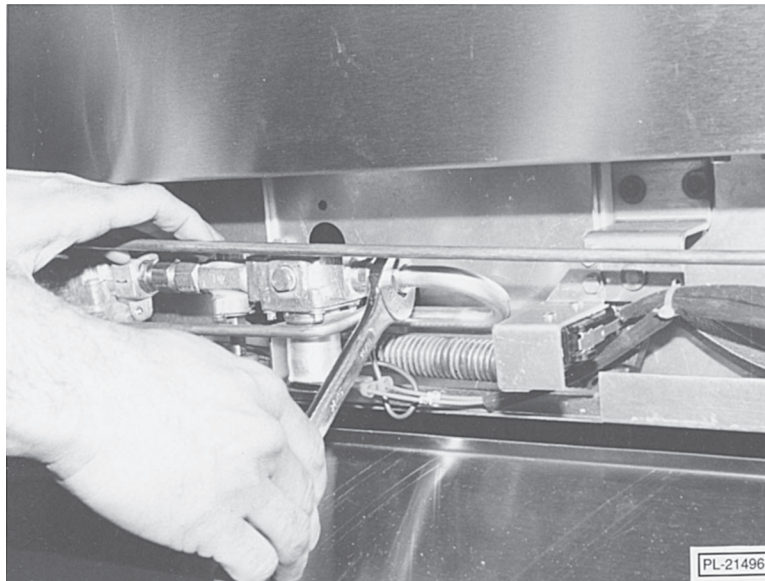

Fig. 66
2. Disconnect $11/16$ " NPT straight fitting (1) at right-hand burner tube, and (2) at the safety valve (Figs. 66, 67, & 68).